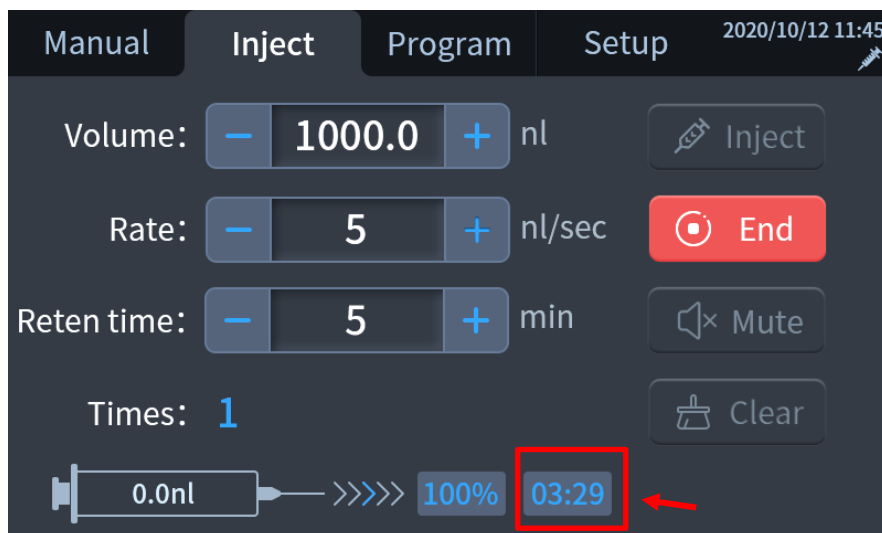

Figure 6-8
- 3) If the retention time is not 0, then enter the retention time interface, the retention countdown is displayed as shown in Figure 6-8.